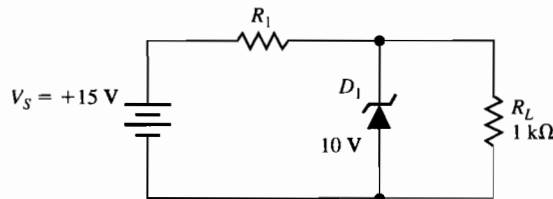

Figure C-17-1
13. For the circuit in Figure C-17-1, assume the zener current is 5 mA .